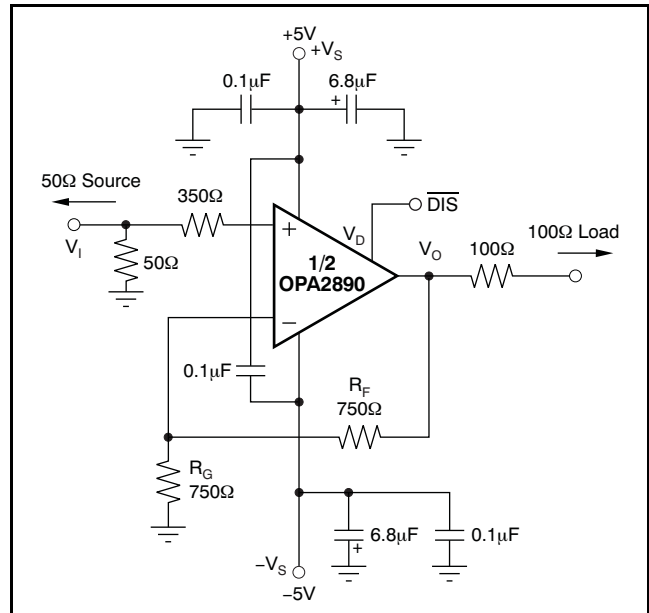
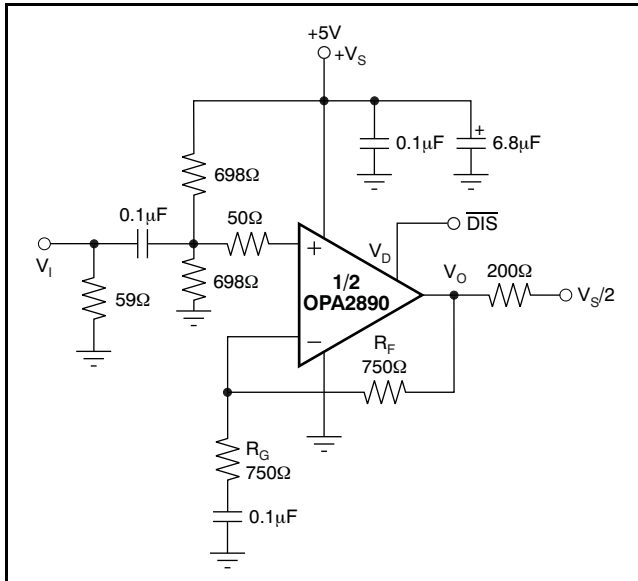
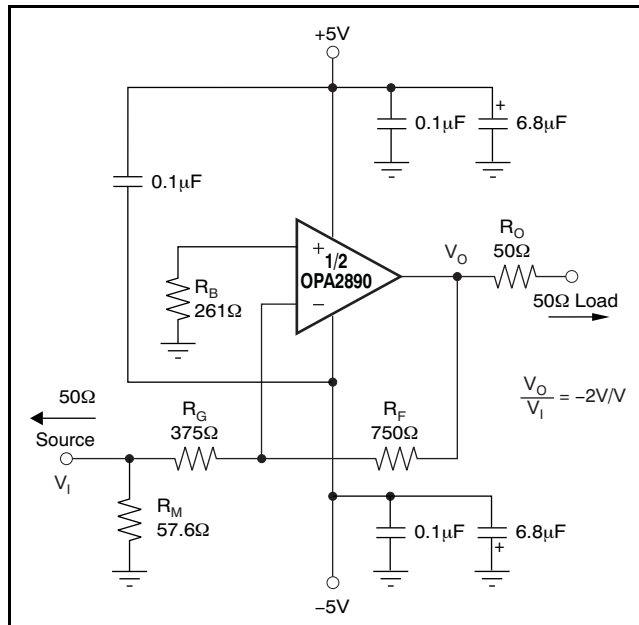

Figure 49. DC-Coupled, G = +2V/V, Bipolar Supply, Specification and Test Circuit
Figure 50. DC-Coupled, $G = +2V/V$, Single-Supply, Specification and Test Circuit
Figure 59. Gain of $-2V/V$ Example Circuit
At $T_A = +25^\circ C$, $G = +2V/V$, $R_F = 750\Omega$, and $R_L = 200\Omega$, unless otherwise noted. See Figure 49.
Figure 49 shows the DC-coupled, gain of +2V/V, dual power-supply circuit configuration used as the basis of the ±5V Electrical Characteristics and Typical Characteristics. This illustration is for one channel; the other channel is connected similarly. For test purposes, the input impedance is set to 50Ω with a resistor to ground and the output impedance is set to 200Ω. Voltage swings reported in the Electrical Characteristics are taken directly at the input and output pins, while output powers (dBm) are at the matched 50Ω load. For the circuit of Figure 49, the total effective load is 200Ω || 1.5kΩ. The disable control line (MSOP-10 package only) is typically left open for normal amplifier operation. Two optional components are included in Figure 49. First, an additional resistor (350Ω) is included in series with the noninverting input. Combined with the 25Ω dc source resistance looking back towards the signal generator, this resistor gives an input bias current cancelling resistance that matches the 750Ω source resistance seen at the inverting input (see the DC Accuracy and Offset Control section). In addition to the usual power-supply decoupling capacitors to ground, a 0.1μF capacitor is also included between the two power-supply pins. In practical printed circuit board (PCB) layouts, this optional capacitor typically improves the 2nd-harmonic distortion performance by 3dB to 6dB.
Figure 50 illustrates the ac-coupled, gain of +2V/V, single-supply circuit configuration used as the basis of the +5V Electrical Characteristics and Typical Characteristics. Though not a rail-to-rail design, the OPA2890 requires minimal input and output voltage headroom compared to other very wideband voltage-feedback op amps. It delivers a 3V_{PP} output swing on a single +5V supply with greater than 80MHz bandwidth. The key requirement of broadband single-supply operation is to maintain input and output signal swings within the usable voltage ranges at both the input and the output. The circuit of Figure 50 establishes an input midpoint bias using a simple resistive divider from the +5V supply (two 698Ω resistors). Separate bias networks would be required at each input. The input signal is then ac-coupled into the midpoint voltage bias. The input voltage can swing to within 1.5V of either supply pin, giving a 2V_{PP} input signal range centered between the supply pins. The input impedance matching resistor (59Ω) used for testing is adjusted to give a 50Ω input load when the parallel combination of the biasing divider network is included.
A good rule of thumb is to target the parallel combination of R_F and R_G (see Figure 49) to be less than approximately 400Ω. The combined impedance $R_F \parallel R_G$ interacts with the inverting input capacitance, placing an additional pole in the feedback network and thus, a zero in the forward response. Assuming a 2pF total parasitic on the inverting node, holding $R_F \parallel R_G < 400\Omega$ keeps this pole above 160MHz. By itself, this constraint implies that the feedback resistor R_F can increase to several kΩ at high gains. This increase in resistor size is acceptable as long as the pole formed by R_F and any parasitic capacitance appearing in parallel is kept out of the frequency range of interest.
Voltage-feedback op amps exhibit decreasing closed-loop bandwidth as the signal gain increases. In theory, this relationship is described by the Gain Bandwidth Product (GBP) shown in the Electrical Characteristics. Ideally, dividing GBP by the noninverting signal gain (also called the Noise Gain, or NG) predicts the closed-loop bandwidth. In practice, this principle only holds true when the phase margin approaches 90°, as it does in high gain configurations. At low gains (increased feedback factors), most amplifiers exhibit a more complex response with lower phase margin. The OPA2890 is compensated to give a slightly peaked response in a noninverting gain of 2V/V (see Figure 49). This compensation results in a typical gain of +2V/V bandwidth of 100MHz, far exceeding that predicted by dividing the 60MHz GBP by 2. Increasing the gain causes the phase margin to approach 90° and the
The frequency response in a gain of +2V/V may be modified to achieve exceptional flatness simply by increasing the noise gain to 2.5V/V. One way to modify the response without affecting the +2V/V signal gain, is to add an 1.5kΩ resistor across the two inputs, as illustrated in the circuit of Figure 49. A similar technique may be used to reduce peaking in unity-gain (voltage follower) applications. For example, by using a 750Ω feedback resistor along with a 750Ω resistor across the two op amp inputs, the voltage follower response is similar to the gain of +2V/V response of Figure 50. Reducing the value of the resistor across the op amp inputs further limits the frequency response due to increased noise gain.
The OPA2890 is a general-purpose, wideband, voltage-feedback op amp; therefore, all of the familiar op amp application circuits are available to the designer. Inverting operation is one of the more common requirements and offers several performance benefits. See Figure 59 for a typical inverting configuration where the I/O impedances and signal gain from Figure 49 are retained in an inverting circuit configuration.
The second major consideration, touched on in the previous paragraph, is that the signal source impedance becomes part of the noise gain equation and influences the bandwidth. For the example in Figure 59, the R_M value combined in parallel with the external 50Ω source impedance yields an effective driving impedance of $50\Omega \parallel 57.6\Omega = 26.7\Omega$. This impedance is added in series with R_G for calculating the noise gain (NG). The resultant NG is 2.86V/V for Figure 59, as opposed to only 2V/V if R_M could be eliminated as discussed above. Therefore, the bandwidth is slightly lower for the gain of $-2V/V$ circuit of Figure 59 than for the gain of $+2V/V$ circuit of Figure 49.
The balanced input stage of a wideband voltage-feedback op amp allows good output dc accuracy in a wide variety of applications. The power-supply current trim for the OPA2890 gives even tighter control than comparable amplifiers. Although the high-speed input stage does require relatively high input bias current (typically 5µA out of each input terminal), the close matching between them may be used to reduce the output dc error caused by this current. The total output offset voltage may be considerably reduced by matching the dc source resistances appearing at the two inputs. This matching reduces the output dc error resulting from the input bias currents to the offset current times the feedback resistor. Evaluating the configuration of Figure 49, and using worst-case +25°C input offset voltage and current specifications, gives a worst-case output offset voltage equal to:
As a worst-case example, compute the maximum T_J using an OPA2890ID (SO-8 package) in the circuit of Figure 49 operating at the maximum specified ambient temperature of +85°C and with both outputs driving a grounded 20 Ω load to +2.5V.